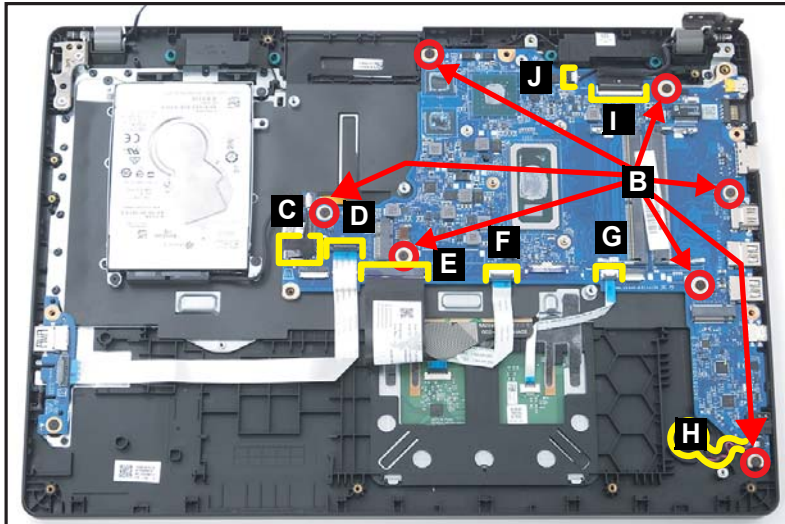

Figure 1-88. Replacing the Mainboard
2. Install and secure seven (7) screws (B) to the mainboard (Figure 1-88).
3. Connect the HDD cable to the mainboard connector (C) (Figure 1-88).
4. Connect the USB board FFC to the mainboard connector (D) (Figure 1-88).
5. Connect the keyboard FPC to the mainboard connector (E) (Figure 1-88).
6. Connect the touchpad FFC to the mainboard connector (F) (Figure 1-88).
7. Connect the fingerprint FFC to the mainboard connector (G) (Figure 1-88).
8. Install the RTC battery onto its slot on the top assembly (H) (Figure 1-88)
9. Connect the eDP cable to the mainboard connector (I) (Figure 1-88).
10. Connect the speaker cable to the mainboard connector (J) (Figure 1-88).